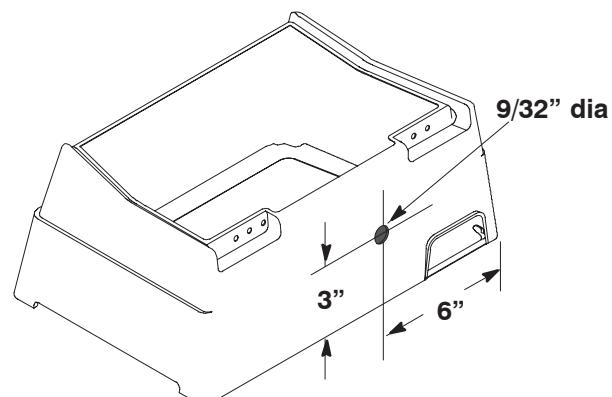

Figure 9
- Using the dimensions shown in figure 9, locate, mark and drill a 9/32" dia. hole in operator's side of console.